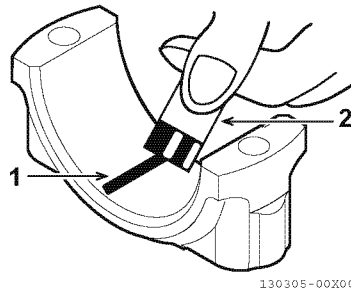

Fig.13-7
- 6 - Compare the width of the flattened part of the PLASTIGAGE (1, Fig.13-7) to the graduation marks on the package (2, Fig.13-7).